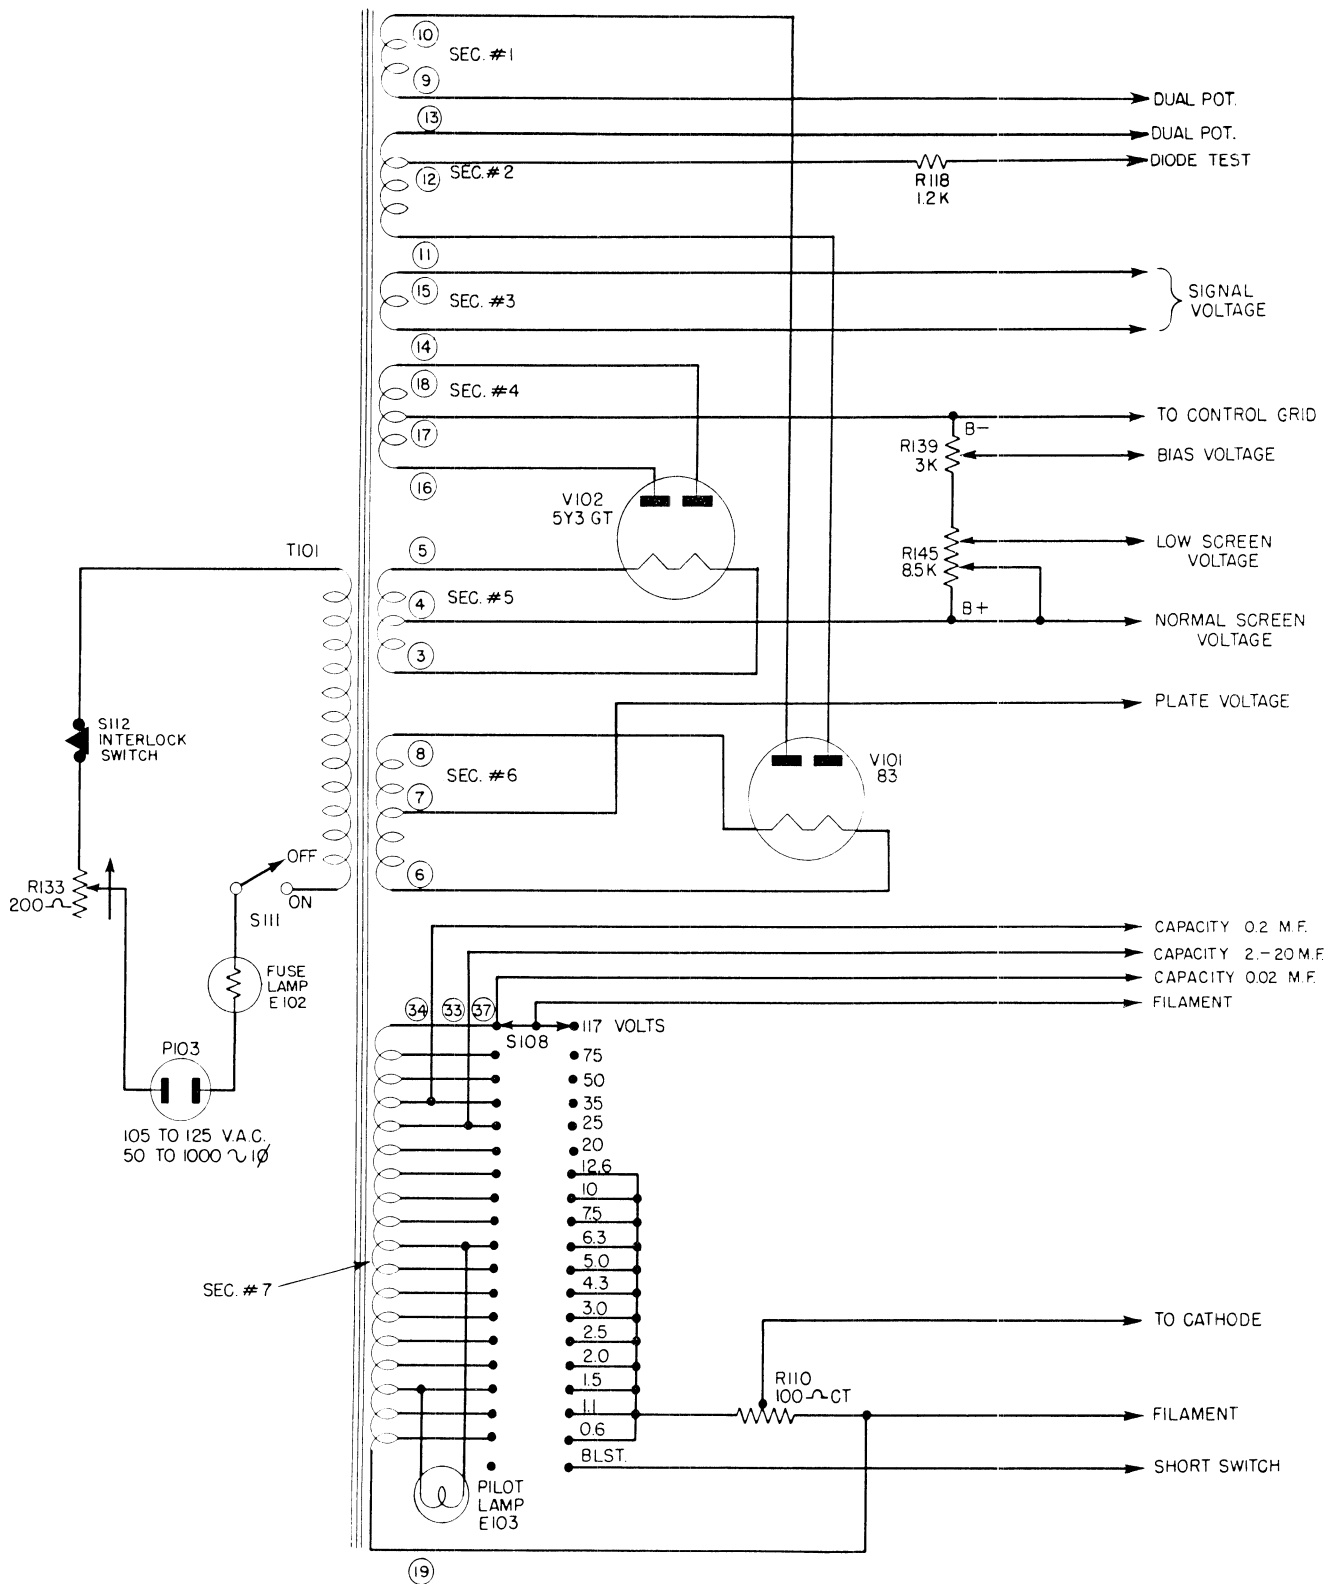

Figure 2-3. Simplified Power Supply Circuit
3. POWER SUPPLY. (See Figure 2-3)
b. Secondary #7 of power transformer T-101 consists of a multi-tapped winding designed to supply the various filament or heater voltages for the tubes under test. Voltages shown on figure 2-3 are measured under load. No load voltages will be somewhat higher. For example: no load voltage measured from point 19 to point 37 will be approximately 121 volts with 93 volts on the primary. Secondary #7 also supplies voltage for rectifier emission tests.